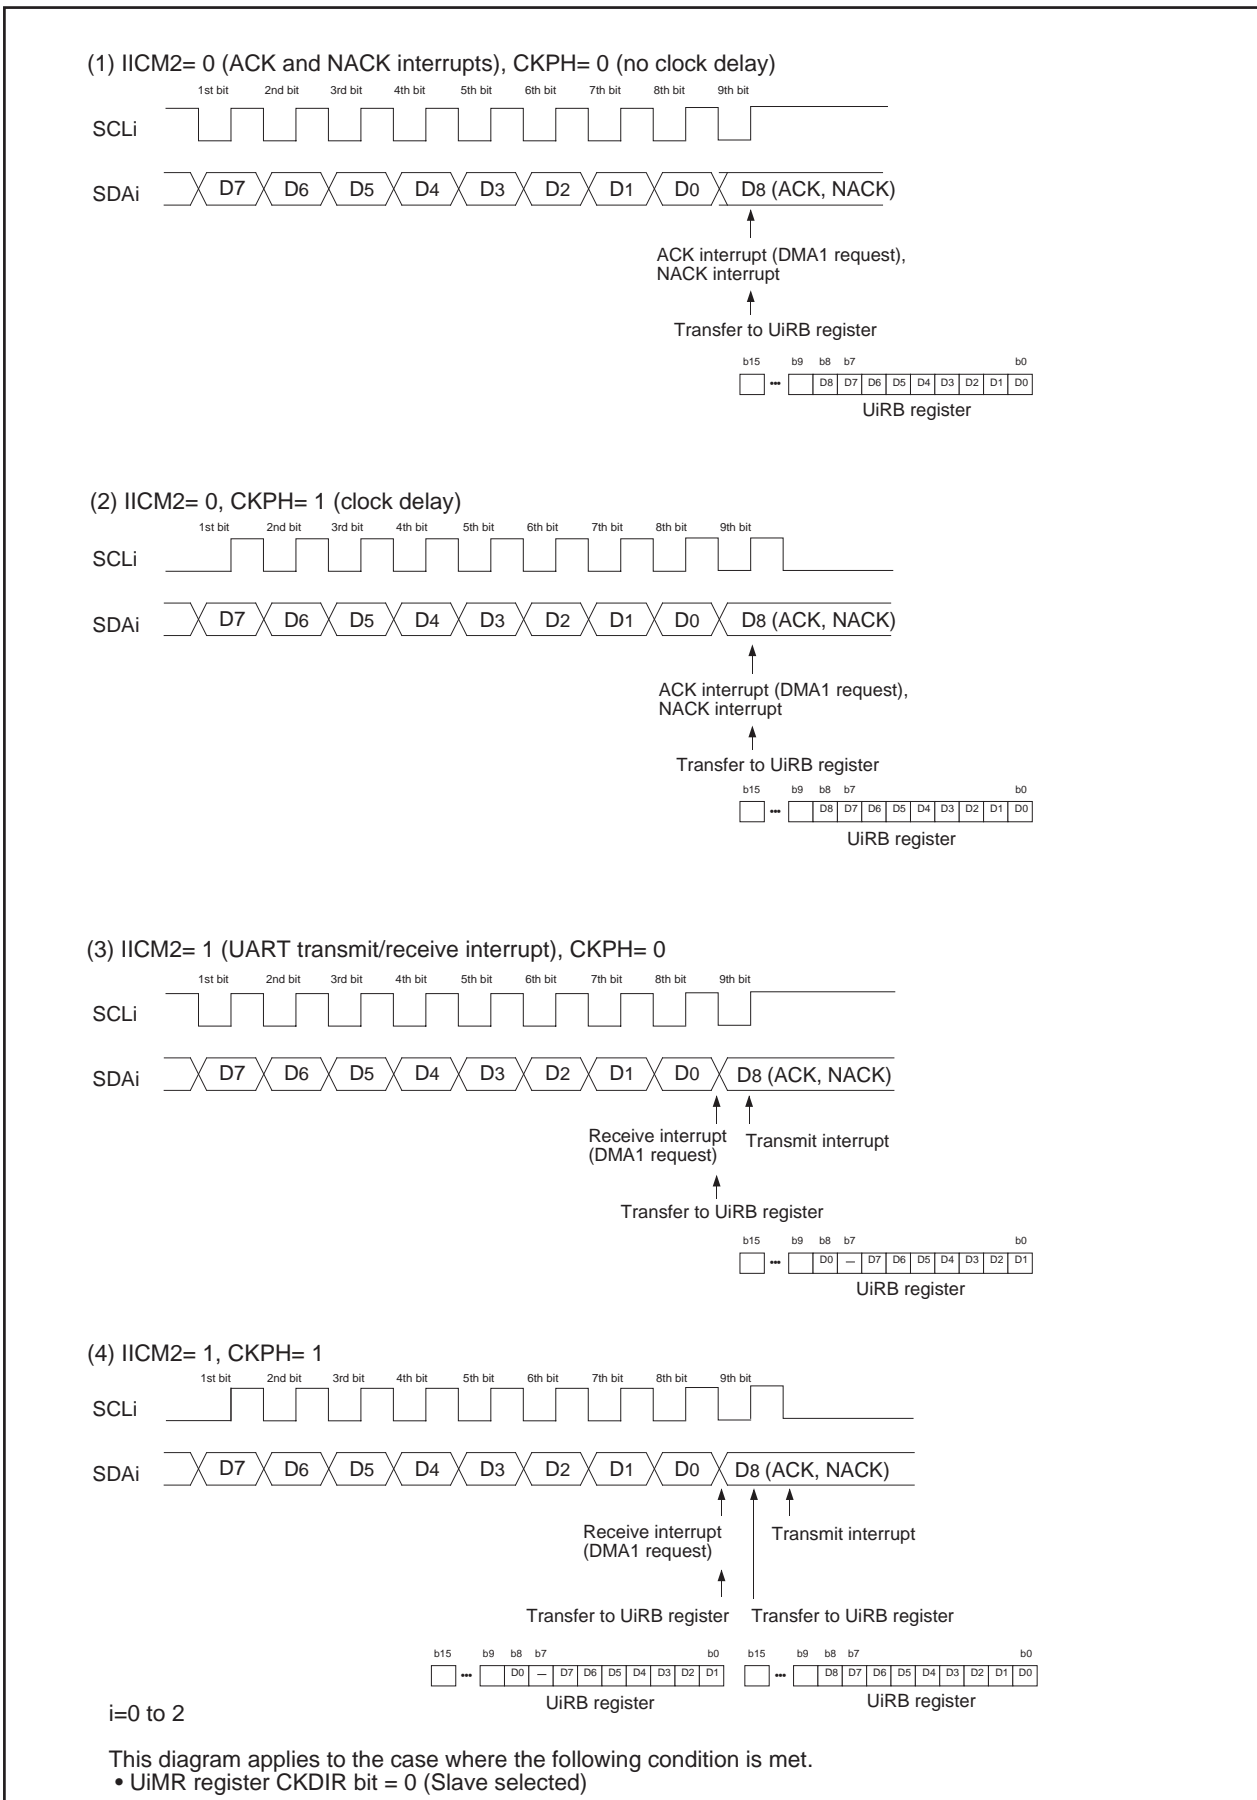

Figure 1.16.2. Transfer to UiRB Register and Interrupt Timing
6. See **Figure 1.16.2 Transfer to UiRB Register and Interrupt Timing**